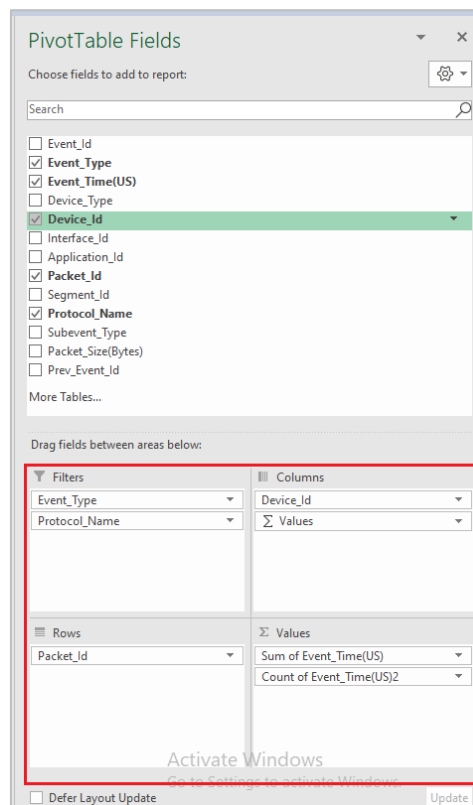

Figure 8-80: Selected Fields to one of the four areas Field list
5. Then finally the **Pivot Table Fields** will be as shown below Figure 8-80.